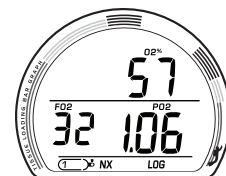

Fig. 22 - LOG DATA 4
**Log Data 4** (only if Nitrox), information includes (Fig. 22):